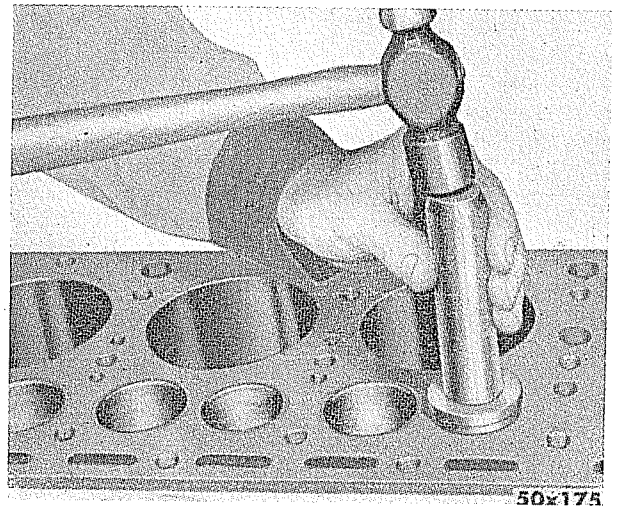

Fig. 33—Installing Valve Seat Insert.
- (3) Place a chilled insert in the counterbore—valve side up.
- (4) Instal valve seat using tool No. C.767, drive insert tightly into counterbore (Figure 33).
- (5) Regrind valve seat.